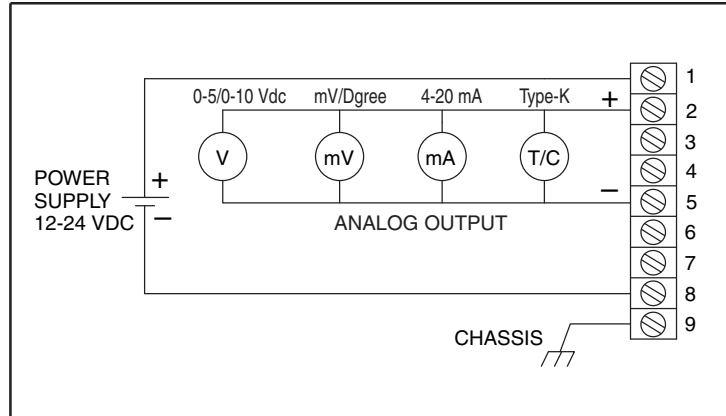
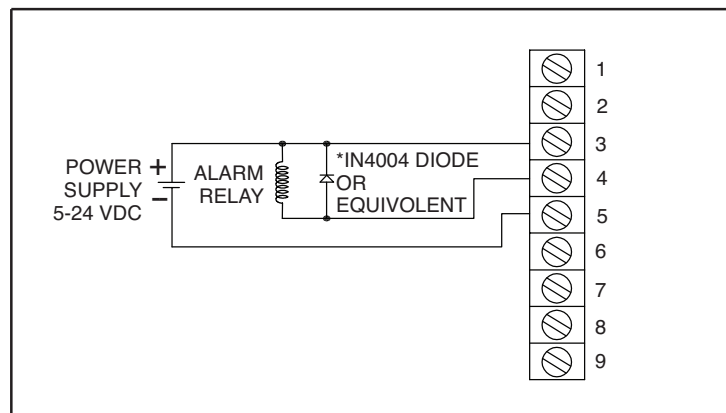

Figure 2-1. Power Supply &amp; Analog Output Connections
Figure 2-2. Alarm Output Connection
**Power & Output Connection** - Open the cover of the main aluminum housing. Slide the cable through the strain relief and connect the wires to the terminal block on the board as shown in Fig. 2-1. For Alarm output connection, refer to Fig. 2-2.
- ✓ The power and analog output connections are made (Fig. 2-1).
- Connect the alarm output as shown in Fig. 2-2.